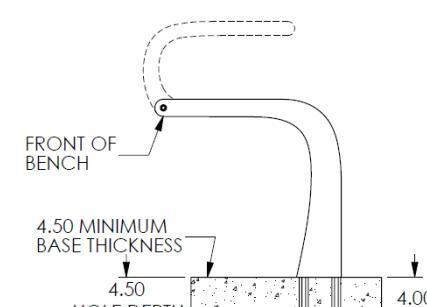

FIGURE 3
FOR EMBEDDED BENCH: See figures 3 and 4.
- Lay out anchor locations as shown in Figures 3 and 4.